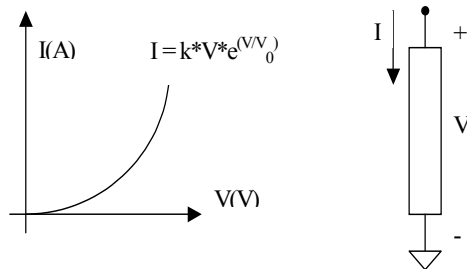

Figure 0.12 Fictive device whose equivalent resistance is to be calculated.
- a. First, consider the fictive device whose I-V characteristic is given in Figure 0.12. Constant k has the dimension of S (or $1/\Omega$). V_0 is a voltage characteristic to the device. Calculate the equivalent resistance for an output voltage transition from 0 to $2V_0$ by integrating the resistance as a function of the voltage.